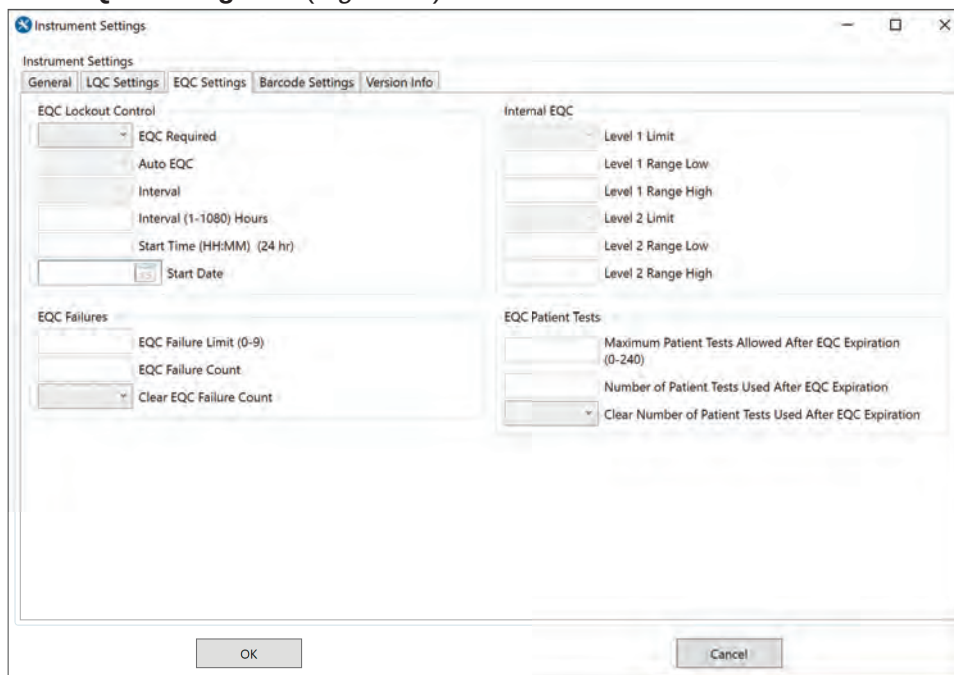

Figure 59: Clear an EQC Lockout in CCM
- 1 Select the **EQC Settings** tab (*Figure 59*).